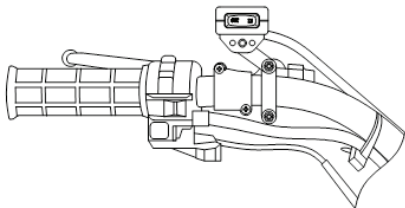

Fig.4: handlebar mount. Exact positioning may vary depending on ATV make and model.
- It is recommended that the switch be installed on the left handlebar. A piece of electrical tape around the handlebar will help prevent rotation of mount on the handle bar (fig.4).